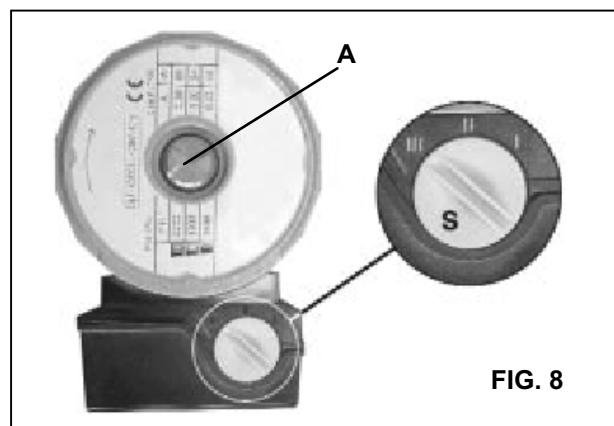

FIG. 8
- 1) Remove screw 'A' (**fig 8**).